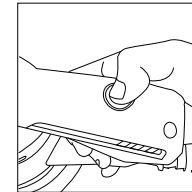

figure 2
2. Press the LED button on the button plate to switch on the sander. - see figure 2.